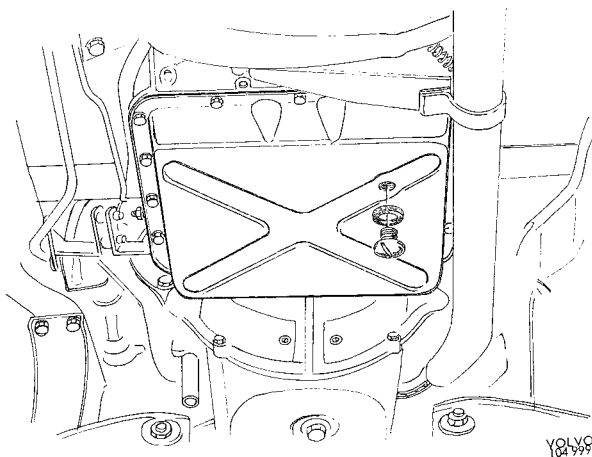

Fig. 4-71. Oil drain plug
1. Jack up and put the vehicle on stands. Drain off the oil into a vessel which is absolutely clean. See Fig. 4-71.
2. Remove the cover plate under the transmission. Drain the oil into a clean container, see Fig. 4-71. **NOTE. The oil may be very hot and scald if contact is made with the skin.**